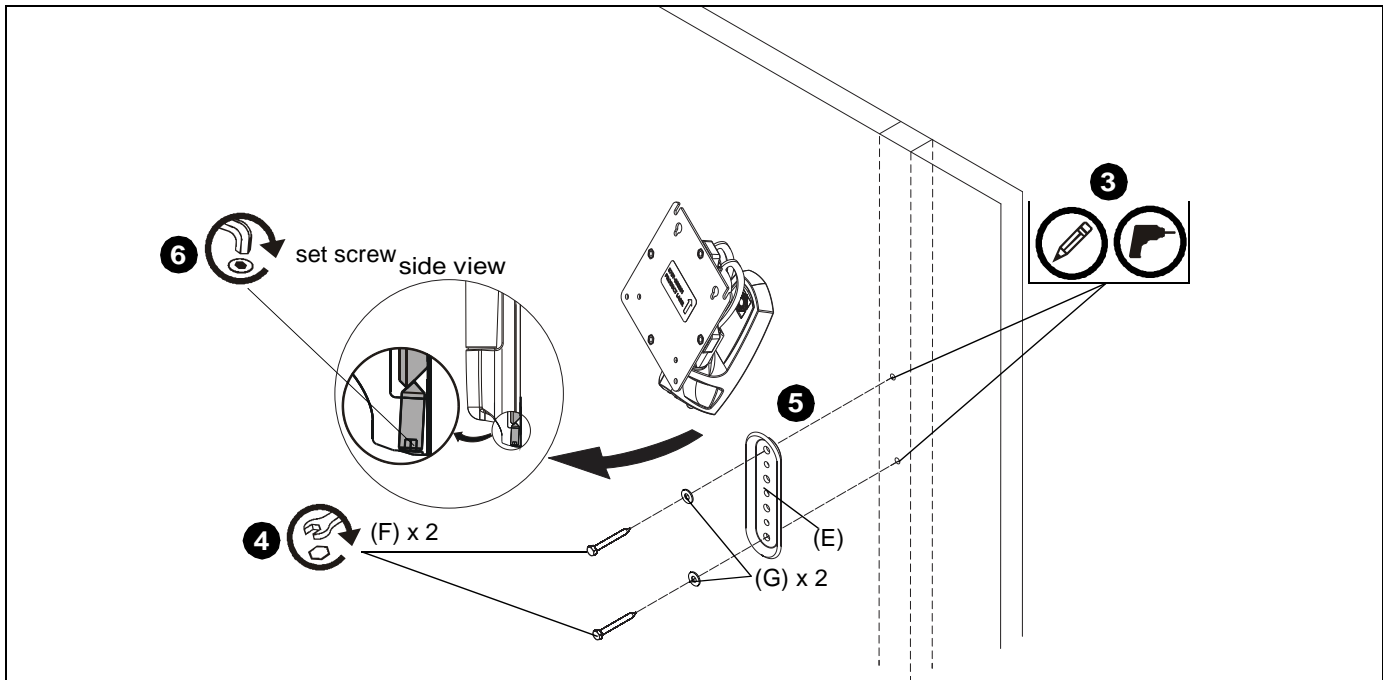

Figure 1
3. Use wall bracket (E) to mark and drill two 1/8" x 2 1/2" holes in wall at desired mounting location. (See Figure 1)
4. Use two 1/4"-2 1/2" hex head lag screws (F) and two 1/4" washers (G) to install wall bracket (E) onto wall. (See Figure 1)
5. Hang monitor arm (A) over wall bracket (E). (See Figure 1)
6. Secure monitor arm to wall bracket (E) by tightening set screw. Ensure set screw engages back side of wall bracket (E) to properly secure mount. (See Figure 1)